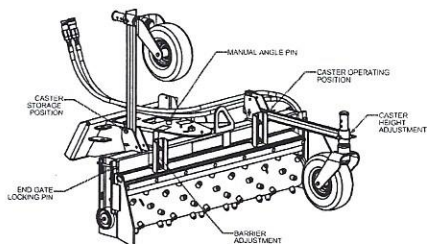

Figure 7. Adjustments
The normal gap between the roller and barrier for average conditions is about 1-1/4". This gap can be adjusted either wider or narrower by loosening the 3/8" U-bolts (2) that holds the barrier mount and sliding it up or down. A wider opening will allow more dirt and rock to pass through. For finer raking, reduce the gap. Be careful not to let roller hit barrier. The gap should be the same all the way across. Barrier adjustment is shown in figure 7.
With the endplates mounted in the working position and the roller straight (parallel with prime mover), material can be moved along, filling in the low spots. By decreasing the gap between the roller and barrier, more material can be pulled along. Barrier adjustment is shown in figure 7.
Install endplates on attachment side of power rake as shown in figure 7. On a hard level surface, lower attachment to the ground.